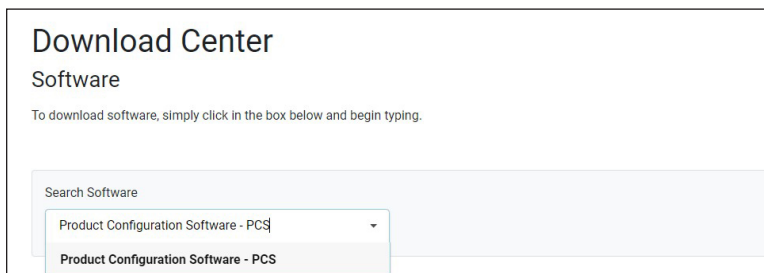

Figure 6. Alphabetic Navigation Bar
- **For software**, click the **Software** link (❷). The Download Center Software page opens (see figure 6). If the software is listed, click the **PCS Product Configuration Software** link (❸) and skip to step 6.
**For software**, type the name of the software into the **Search Software** field and select the desired software (see figure 6).